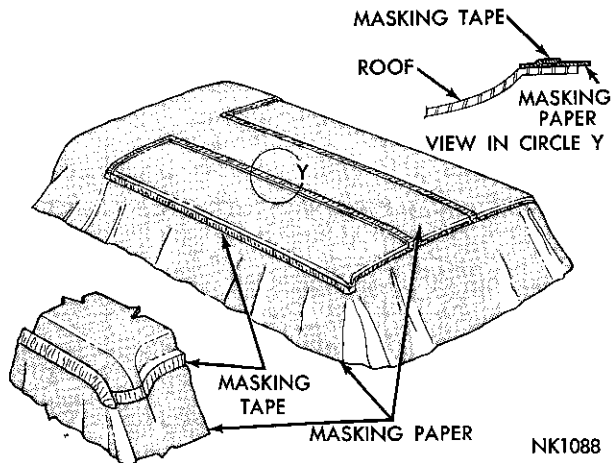
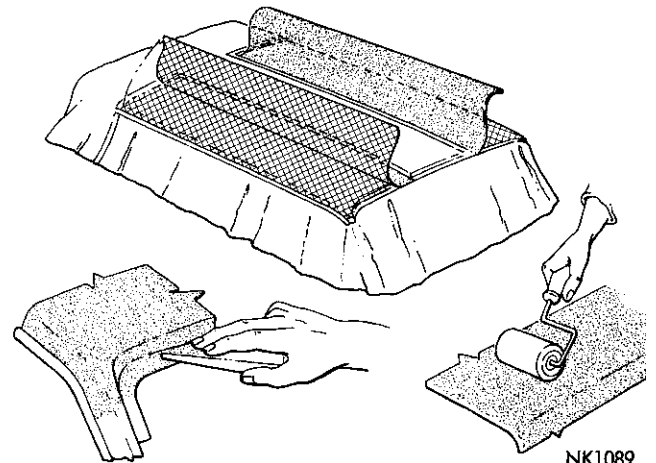

Fig. 183—Masking the Body (Station Wagon)
Fig. 184—Positioning the Cover (Station Wagon)
- (1) Mask the body (Fig. 183) along the top edge of the drain trough, across the windshield upper flange and adjacent to the break lines of the roof normal surface and depressed surface.
- (2) Apply a thin coat of cement to the roof panel and to the underside of the vinyl covering.
- (3) When the cement becomes tacky but not wet to the touch, lower the roof covering (two men) to the roof panel and stretch tight (Fig. 184).
- (4) Work all wrinkles out, starting from the center and working toward the drain trough.
- (5) Press the fabric into the windshield reveal (Fig. 184) using a dull pointed tool.